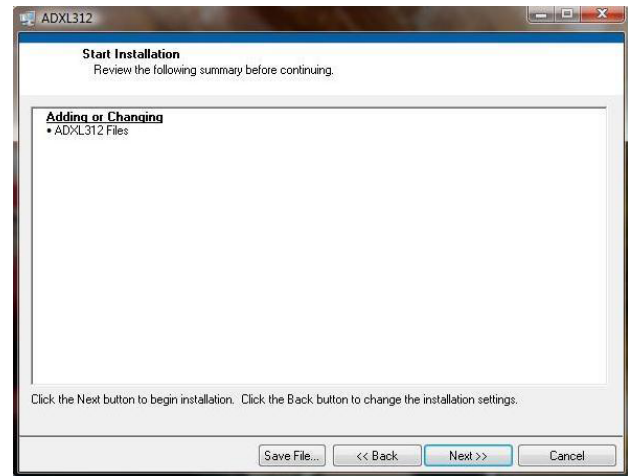

Figure 13. Start Installation (Listing Varies Based on PC Requirements)
3. Read the **National Instruments Software License Agreement**. Chose **I accept the License Agreement(s)**, and then click **Next>>**. The installer will then list the required components that will be installed on your PC (see Figure 13).